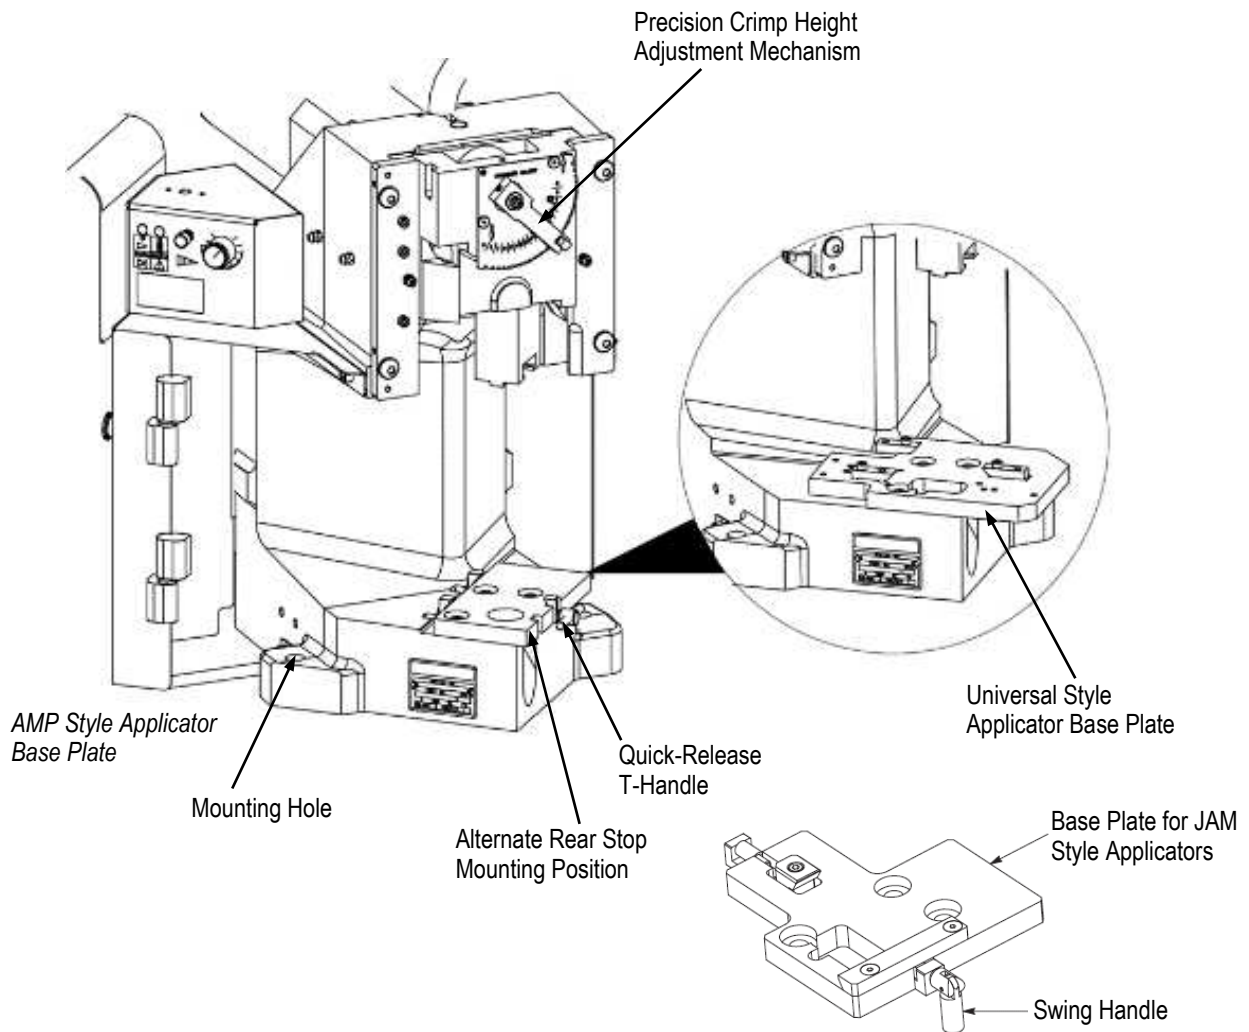

Figure 4
3. The **base plate** provides the mounting surface on which the applicator is installed. The quick-release latching feature on machines with the AMP style base plate permits fast, easy installation and removal of the applicator. Machines with the Universal style base plate do not include the quick-release latching feature. See Figure 4.
4. The **crimp height adjustment** group uses an eccentric located in the ram linkage, along with detented stops in the mechanism to adjust the crimp height. Indexing the mechanism in either direction will change the crimp height in increments of approximately 0.013 mm [.0005 In.] per step. Refer to Figure 4 for the Precision Crimp Height Adjustment Mechanism.
Machines should be securely bolted to the bench using the machine mounting hole(s) shown in Figure 4. Hardware is customer supplied. Machines should not extend beyond the front of the bench.